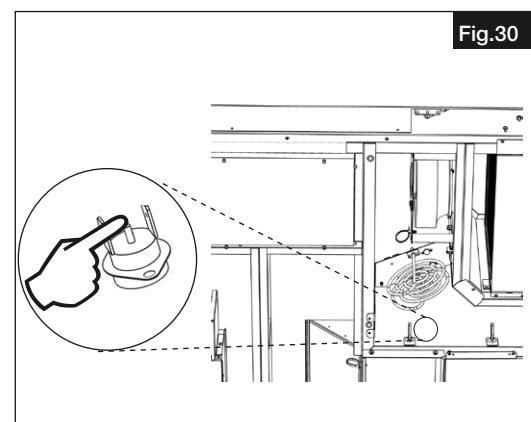

Fig.30
2. Press the reset button for the electrical pre-heater (see Fig.30).